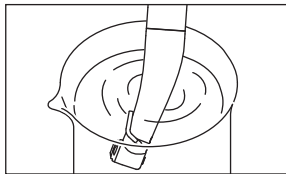

Fig. 11
- 3) (Only for X-SG20L / SG20) Immerse about 20mm of the handpiece head in water, and rotate the handpiece for about 15 seconds while switching the Forward/Reverse rotation direction (Fig. 11)